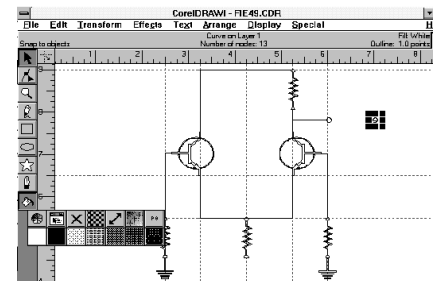

Fig. 20
**52.** Since we will need three more circles on the schematic we will duplicate the circle using the CTRL-D command. A second circle will appear to the right of the original circle. This circle needs to have its center black as used to indicate a connection on a line in the schematic. To do so, click the mouse once on the paint bucket icon in the tool bar. (See **Figure 20**) The paint bucket pop-out screen will appear. Click the mouse once on the black box. This will fill-in the circle black.